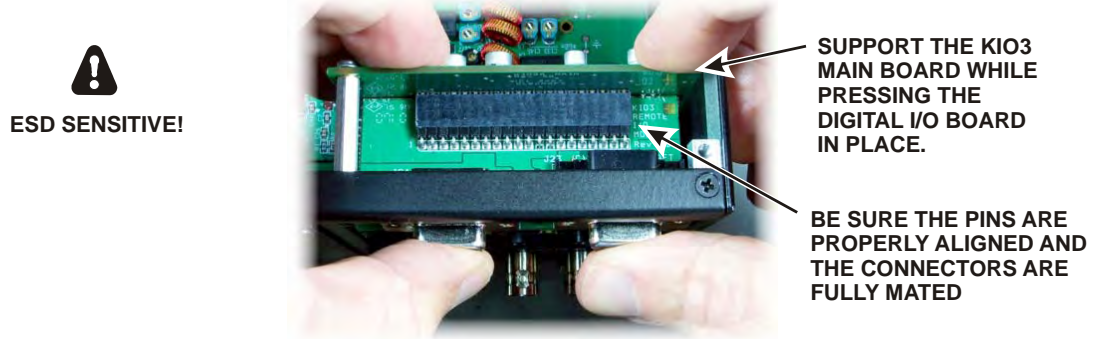

Figure 31. Installing the KIO3 Digital I/O Board.
- Install the KIO3 Digital I/O daughter board as shown in Figure 31. Be careful to support the KIO3 main board as shown while pressing the daughter board in place.